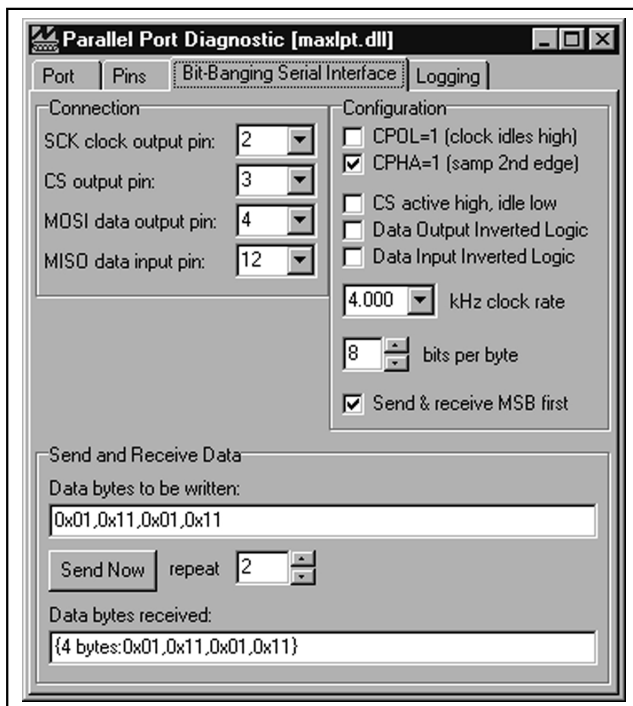

Figure 3. Parallel Port Diagnostic Window's **Bit-Banging Serial Interface** Tab Provides Direct, Low-Level Access to the MAX6952 Through the SPI Interface
- 1) Click on the **Bit-Banging Serial Interface** tab and set **bits per byte** to 8 (Figure 3).